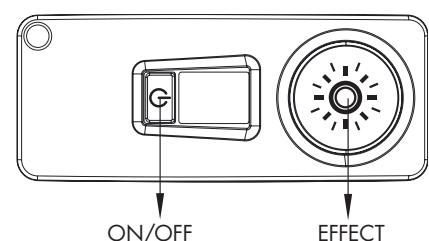

Fig. 2
3. The remote has two buttons. (Fig 2)